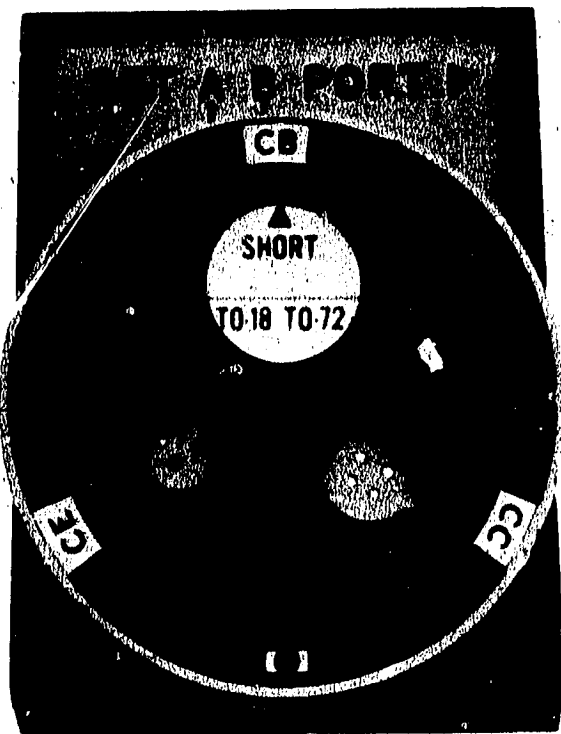

Figure 3-8. Correct Position of Snap-on Dial when Using Calibrator
CALIBRATION DESCRIPTION. Calibration consists of obtaining a reference indication using a termination of known magnitude and phase angle. Magnitude and phase reference indications for calibration are given in Table 3-2. An open circuit is obtained by not plugging anything into the transistor fixture. Calibrators, either a short, through section, or a 50-ohm load, may be used for more accurate calibration. If a calibrator is used, see Figure 3-8 for proper positioning of fixture snap-on dial and calibrator. For normal calibration, only one s parameter with only one of the known terminations is needed. Calibration for greater accuracy is discussed in Paragraph 3-18.
3. Insert the calibrator to be used (Figure 3-8), and select the appropriate s parameter (See Table 3-2).
CALIBRATION DESCRIPTION. Calibration consists of obtaining a reference indication using a termination of known magnitude and phase angle. Magnitude and phase reference indications for calibration are given in Table 3-2. An open circuit is obtained by not plugging anything into the transistor fixture. Calibrators, either a short, through section, or a 50-ohm load, may be used for a more accurate calibration. If a calibrator is used, see Figure 3-8 for proper positioning of fixture snap-on dial and calibrator. For normal calibration, only one s parameter with only one of the known terminations is needed. Calibration for greater accuracy is discussed in Paragraph 3-18.
4. Connect the calibrator to be used. (See Figure 3-8.)